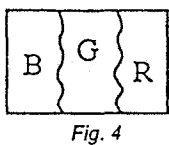

Fig. 4
(7) If the deflection yoke comes too far forward, you will see the pattern shown in Figure 4. If that happens, lower the deflection yoke to the rear. Fig. 4 → 3